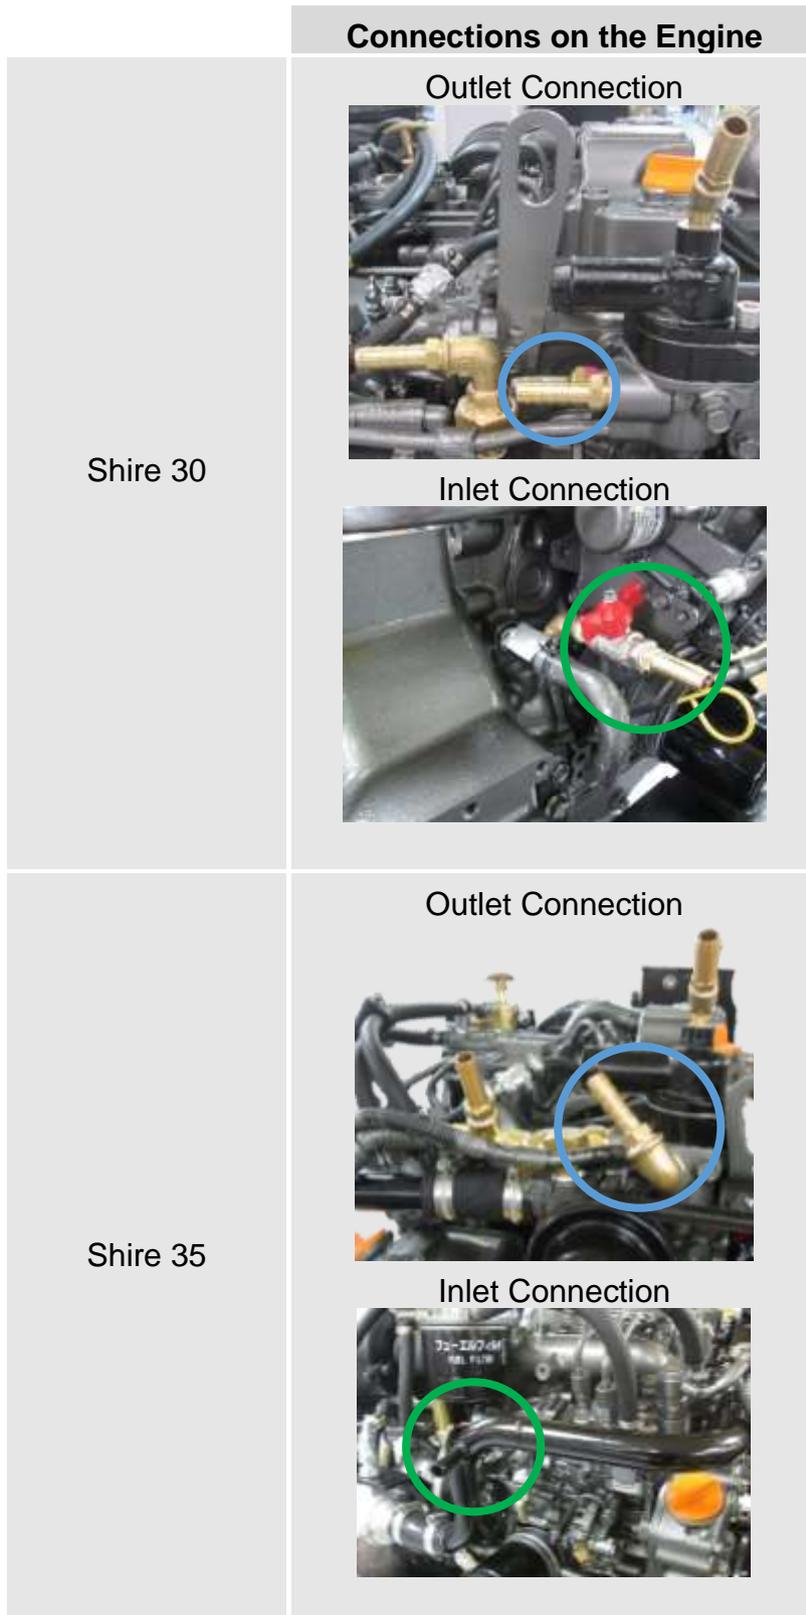

Figure 16: Calorifier Connections
- The connections for the calorifiers are shown on (**Figure 16**).